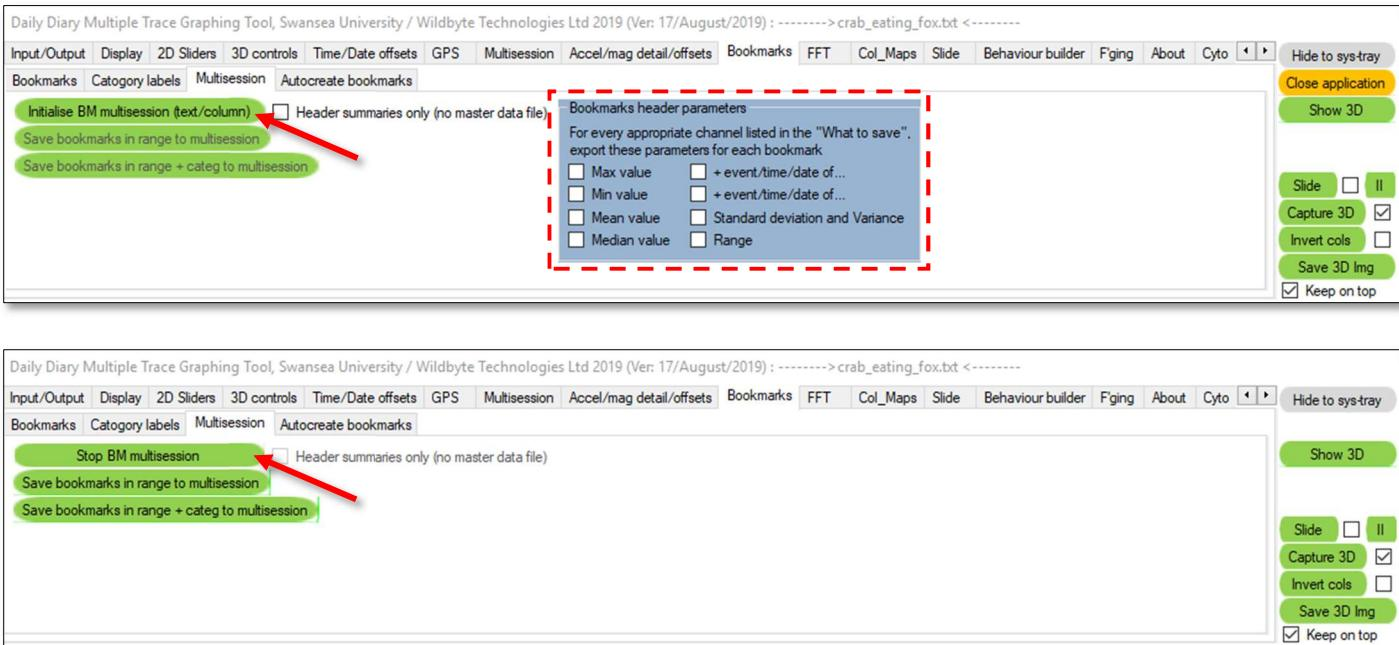

Figure 6.16 Bookmarks/Multisession tab before and after initialising the session
**Multisession** is controlled from the **Bookmarks / Multisession** tab where the user can select the parameters of interest (of each Bookmark) to be exported in the Header file in the blue box, Figure 6.16. These parameters include maximum and minimum values, means, medians, standard deviations, variances, and ranges, as well as event times and dates. The **Header summaries only (no master data file)** checkbox controls whether an optional Master file is exported along with summaries i.e., sometimes it is not required to generate the Master data file, only the summary Header file.